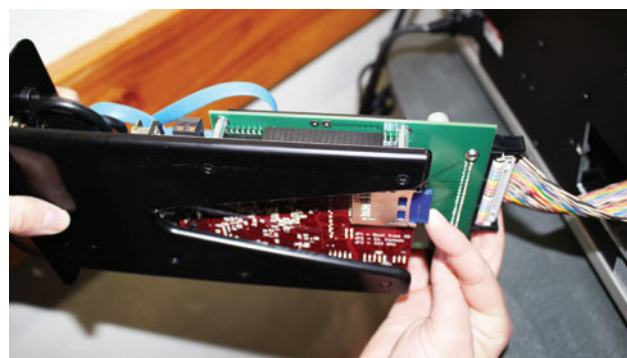

Figure 3. Remove the old SD card.
4. Remove the old SD Card (**Figure 3**).